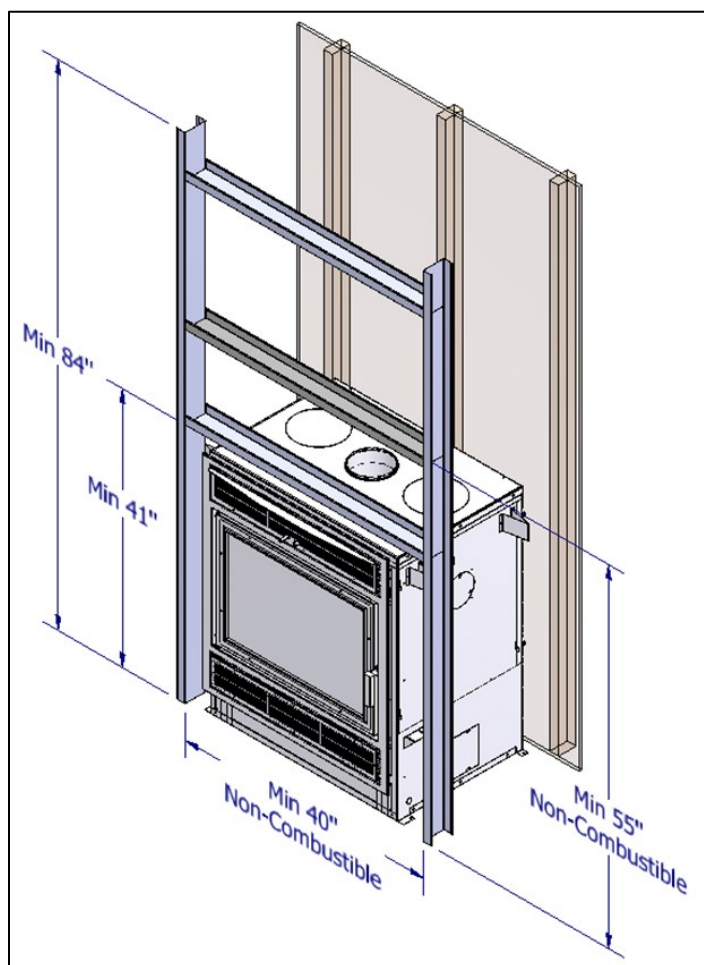
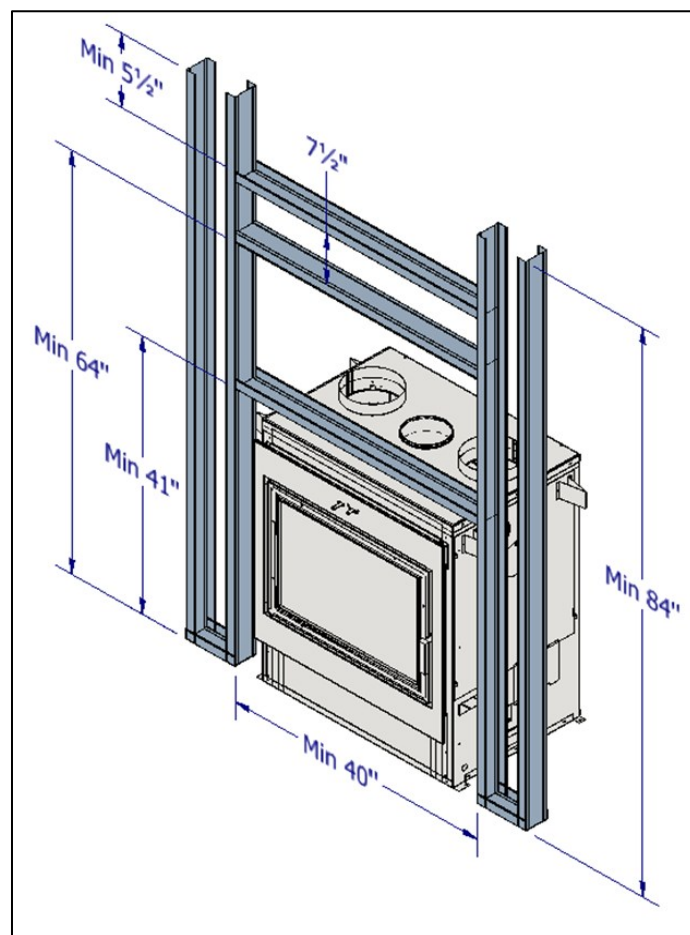

Figure 3-10: Minimum Elegance 42 Framing Dimensions
Figure 3-11: Minimum Framing Dimensions for Single Linear Front Louver Gravity Kit Installations
The Elegance 42 can be placed directly onto or against normal, combustible construction materials such as lumber, plywood, millboard, particleboard, drywall and decorative wood paneling. The fireplace should NOT be placed directly against or be in contact with an insulation material. A portion of the framing on the face of the chase must be constructed with nominal 2" x 3" or 2" x 4" metal studs and the remainder can be constructed with nominal 2" x 3" or 2" x 4" lumber. Refer to Figure 3-10 for an example of a framing design and Figure 3-11 for the framing for installations of the single linear front louver gravity kit. The framing must be nailed or screwed onto the floor and to the ceiling.
**CAUTION:** Respect the framing design outlined in Figure 3-11 as well as the chimney manufacturer's clearances to combustibles.
Refer to Figure 3-10 for minimum non-combustible framing dimensions